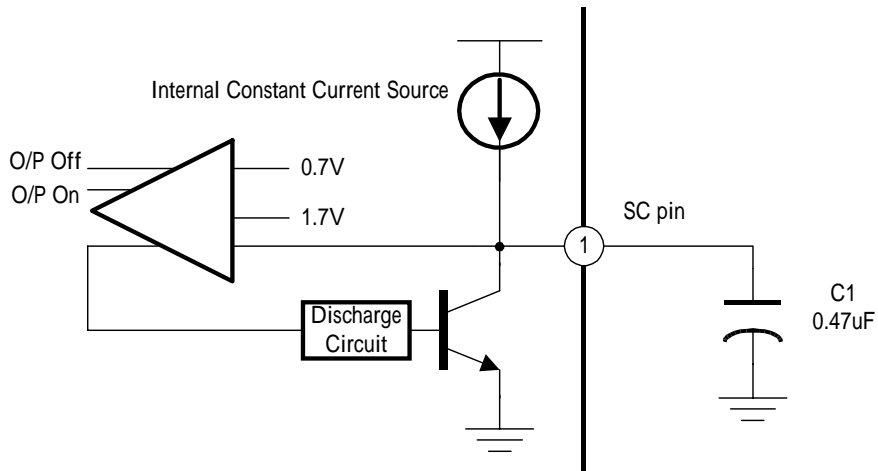
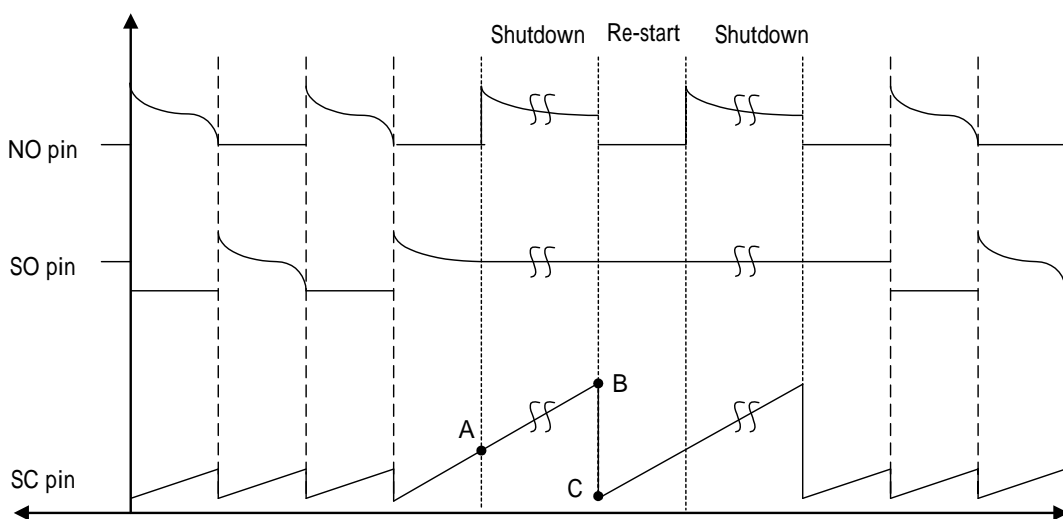

Fig 7 SC Block Diagram
Fig 8 Timing Diagram
Fig 7 the shutdown control (SC) pin input connected with the capacitor to decide the shutdown to re-start time with internal charge current and reset circuit. The capacitor is charged to “A” point and shutdown (Figure 8, typical value is 0.7V) by an internal constant current source as a situation of the motor is locked for a long-time condition cause DC motor malfunction.
And the capacitor is discharged to “C” point (Figure 8, typical value is 0.3V) until internal circuits detect a re-start threshold voltage (“B” point, typical value is 1.7V), and then FS212 would let the motor have a torque for rotation. The calculated formula of shutdown timing is :
Fig 8 illustrates the relation of FS212 output stages and SC pin timing waveform.